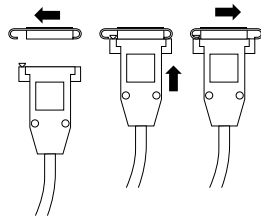

Figure 2-3 Ethernet AUI Cable
- Make sure the sliding bracket on the Ethernet port on the system is pushed all the way left, as shown in Figure 2-3.